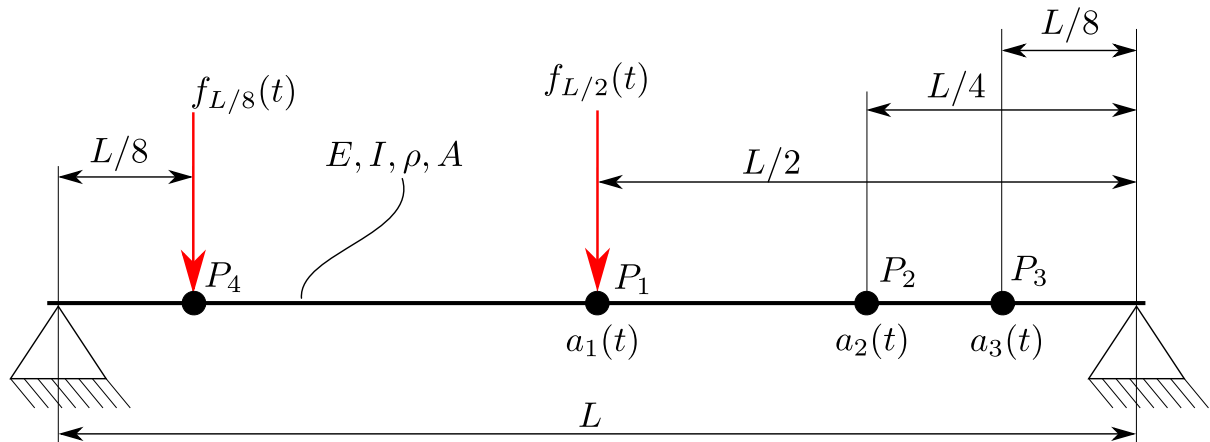

Figure 1: Analytical model and accelerometer positions
1. Referring to figure 1, choose a reference frame and write the analytical model of the beam. Consider the beam as pinned-pinned. Consider only the first four modes to describe the behaviour of the system:
4. Consider the system as damped. Start from the generic differential equation of the forced damped modal coordinates. Calculate the transfer functions between an impulse force $f_j(t)$ and the accelerations $a_i(t)$. Where j is the point of application of the force, either P_1 or P_4 , and i indicates the position of the i -th accelerometer, either P_1 , P_2 or P_3 (look at fig 1):
An impact hammer has been used to excite the beam in two different points, P_1 and P_4 (red forces in figure 1). Several tests have been performed, hitting the bar in the two points. The sampling frequency is 25600 Hz, and has been kept constant for all the tests. The results are provided in files with *txt* format. Files columns, from left to right, contains: time (s), force (N), acceleration of accelerometer 1 (m/s^2), acceleration of accelerometer 2 (m/s^2), acceleration of accelerometer 3 (m/s^2).